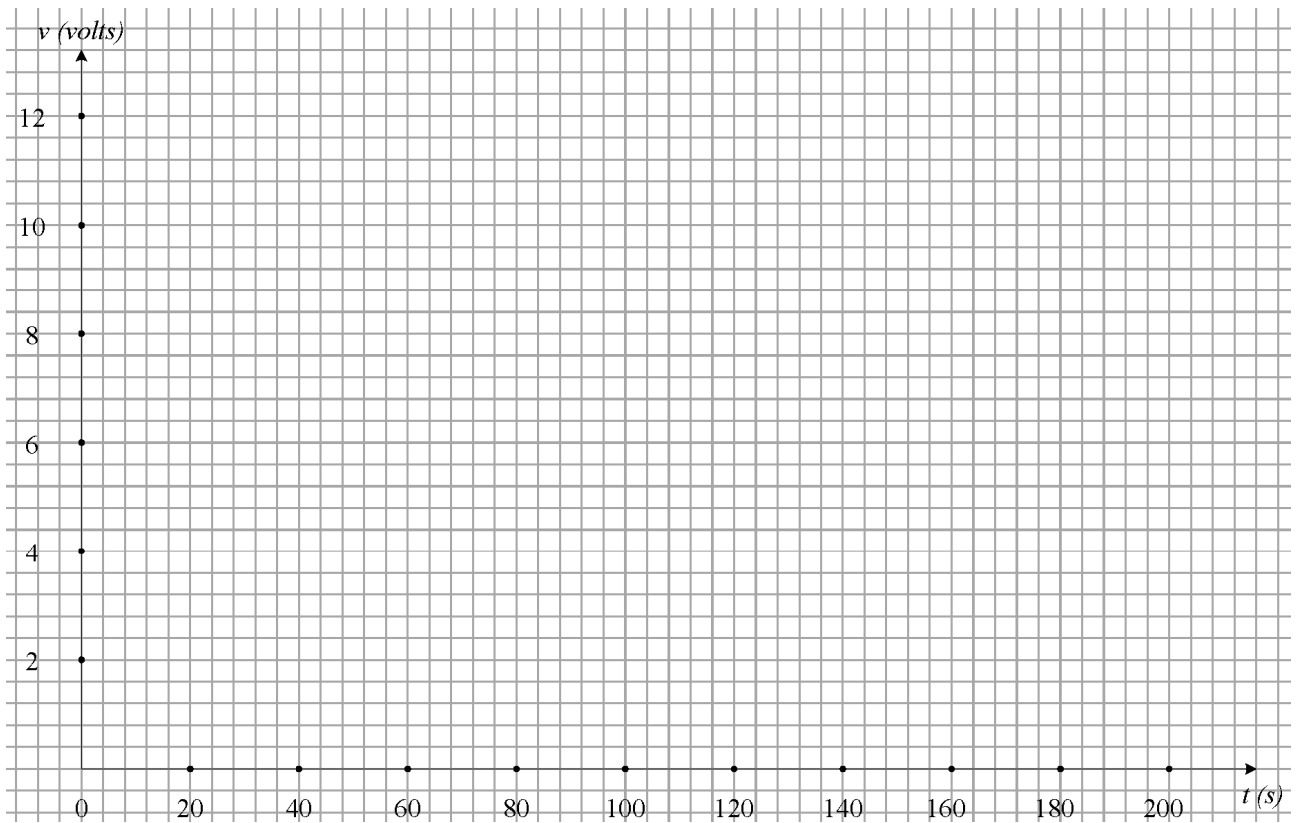

Figure 6.4: V_C and V_R versus time
6) Plot the curves of v_C and v_R versus time on Fig. 6.4. Label each curve and indicate the intervals 1τ through 5τ on the horizontal axis.
7) Record the level of v_C after one and five time constants from Fig. 6.4. Is v_C approximately 63.2% of nominal after one time constant? Does the level of v_C suggest that the major portion of the transient phase has passed after five time constants?
- 10) Determine v_C at $t = 25$ s from the curve of Fig. 6.4 How do the calculated (Part (9)) and measured levels of v_C at $t = 25$ s compare?